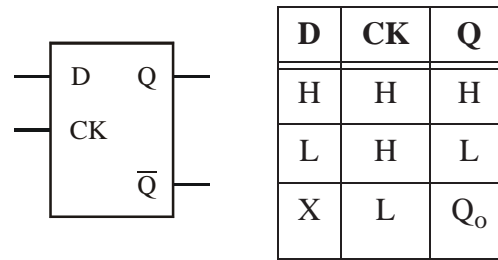

Figure 7.2 Data Latch (7475)
There are many digital circuit applications where you may need to store data for later use. One way to do this is through the use of flip-flops. The bistable data latch (see Figure 7.2) is a flip-flop that is useful in many applications. The data latch has a data input (D), a clock input (CK), and output Q. Most flip-flops include complementary outputs where  $\bar{Q}$  is the inverse of Q. With a data latch, the data input gets passed to or blocked from the output depending upon the clock signal. When CK is high,  $Q=D$  (i.e., the output tracks the input). When CK is low, the D input is ignored and the last value of Q (the value of D when CK last went low) is stored (latched). This memory state of the flip-flop (when CK is low) is indicated in the truth table with  $Q_0$  (the last value latched). The entire functionality is summarized in the truth table shown in Figure 7.2. An X in a truth table indicates that a signal value may have either value (H or L). For example, for the data latch, when CK is low, the input D has no effect on the output Q.